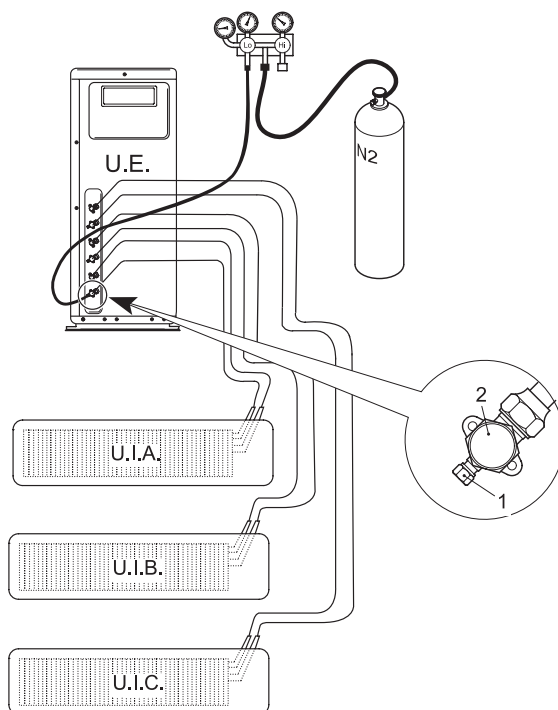

fig. 23 -
- With the service valves of the outdoor unit completely shut, remove the cap from the service tap (part 1 - "fig. 23 -") and the union (part 2 - "fig. 23 -") of the gas valve (the larger one)